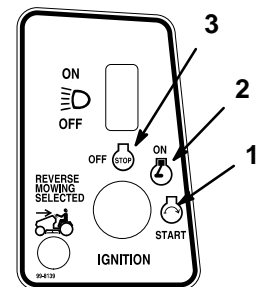

Figure 9
6. Turn the ignition key clockwise and hold it in the "START" position (Fig. 9). When the engine starts, release the key.
2. Turn the ignition key to “OFF” (Fig. 9).